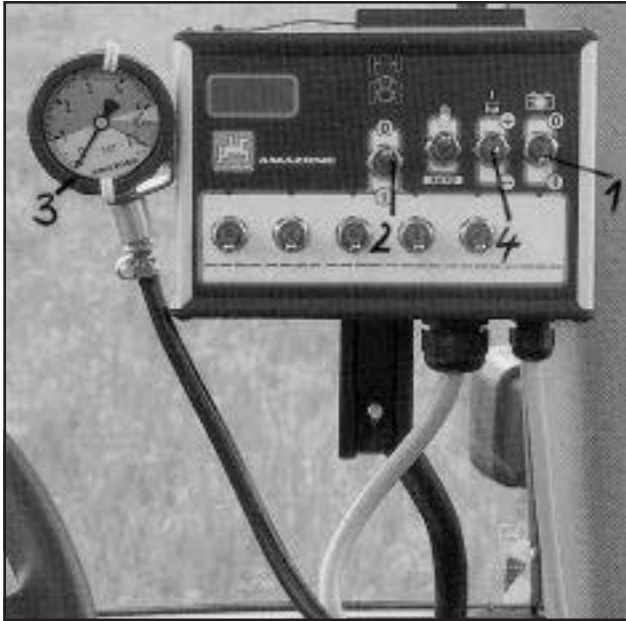

Fig. 6.10
- Bring on-/off-switch (Fig. 6.10/ 1) for electric power supply into position "I" (EIN/ON).
- Bring Switch (Fig. 6.10/ 2) for the central sprayer boom feed supply into position "0" (AUS/OFF).
- Set the spray pressure taken from the spray setting chart at the spray pressure display (Fig. 6.10/ 4) by the \pm tip switch (Fig. 6.10/ 3).